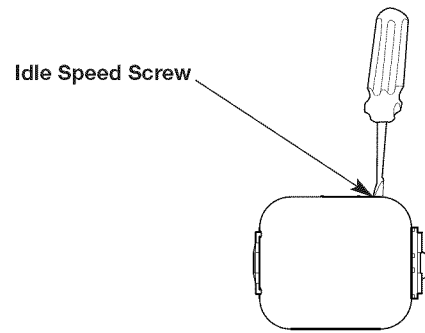

Fig. 15
2. Move the cruise control to the SLOW position and let the engine idle. If the engine stops, increase the idle speed. Use a small Phillips screwdriver to turn the idle speed screw clockwise, 1/8 of a turn at a time, until the engine idles smoothly (Fig. 15).